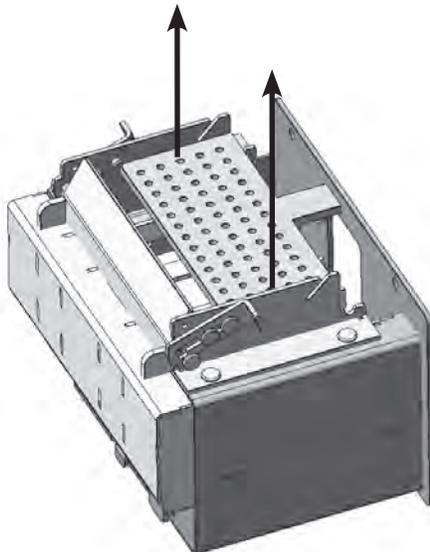

Figure 17
7. Lift Cast Re-light Plate up and out (Figure 17).